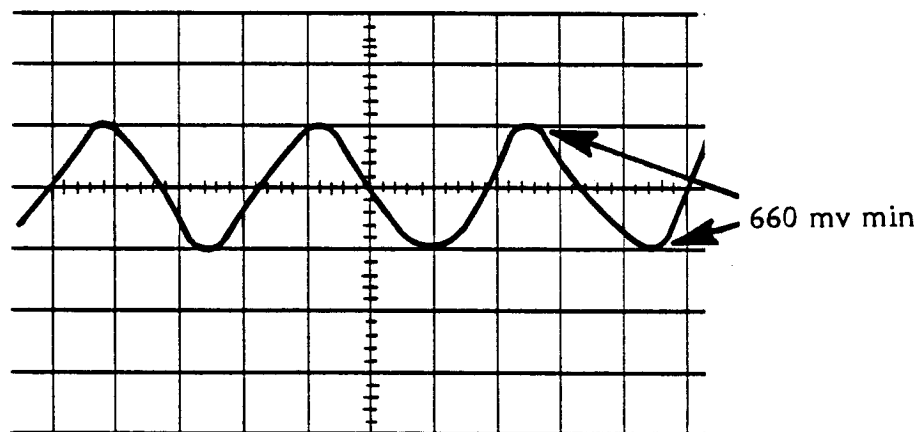

Figure 4-5. Head Alignment Waveform
8. Turn the Head Adjustment Screw on the 1010 as illustrated in Figure 4-6 until the maximum peak-to-peak signal is at least 660 mv, as illustrated in Figure 4-5.